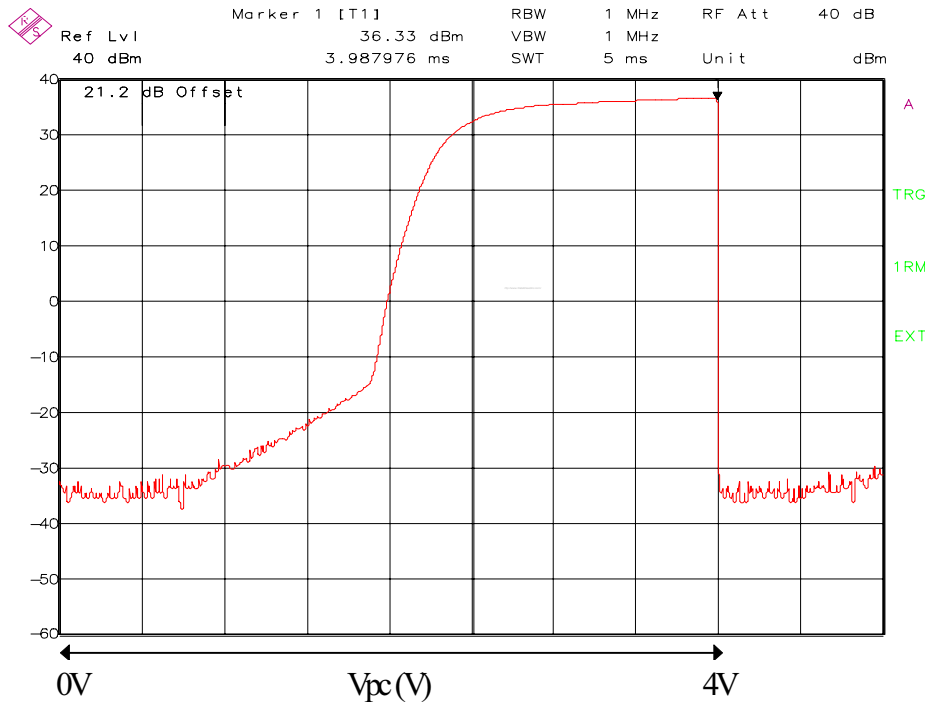

Figure 1. Output power vs. Vpc from 0 to 4V. Note that the power control range is >60dB with the maximum output power at 36.3dBm.
- Gain Control. Using the same pin as is used for power down, the gain is controlled over 60dB with a 1V to 4V control range. A typical power control characteristic is shown in Figure 1.